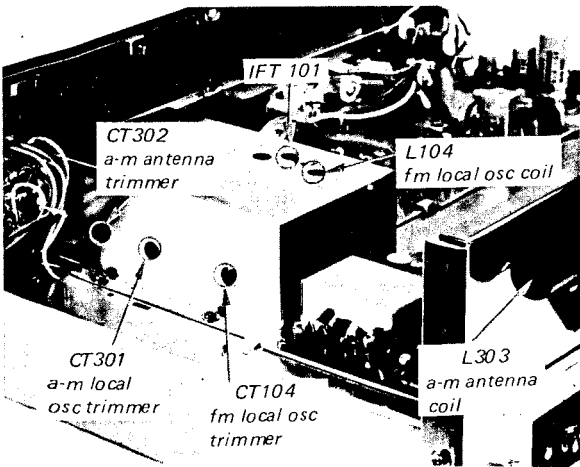

Fig. 3-5 Parts location
3. Turn the core of transformer IFT101 (See Fig. 3-5) with the alignment tool to obtain maximum output.
2. Check the dial scale for a calibration accuracy of ± 200 kHz from the carrier frequency of the station. If the dial-accuracy deviation exceeds this limit, turn local-oscillator coil L104 slightly as shown in Fig. 3-5 until optimum dial calibration is obtained.
3. Tune the receiver to the highest-frequency station in your locality. If the dial-calibration error is excessive, adjust local-oscillator trimmer CT104 to obtain maximum calibration accuracy. See Fig. 3-5.
2. Tune the receiver to the highest-frequency station in your locality. If the dial calibration error exceeds ± 30 kHz from the station carrier frequency, adjust local-oscillator trimmer-capacitor CT301 (see Fig. 3-5) to obtain maximum calibration accuracy.